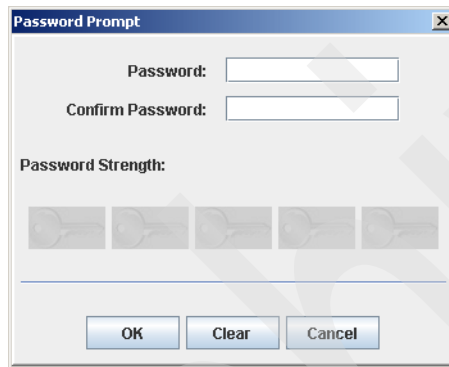

Figure 6-16 Password prompt
3. The Password Prompt window (Figure 6-16) is displayed. Specify a password to protect the keystore. (You will need this password later to access the keystore.) Click **OK**.